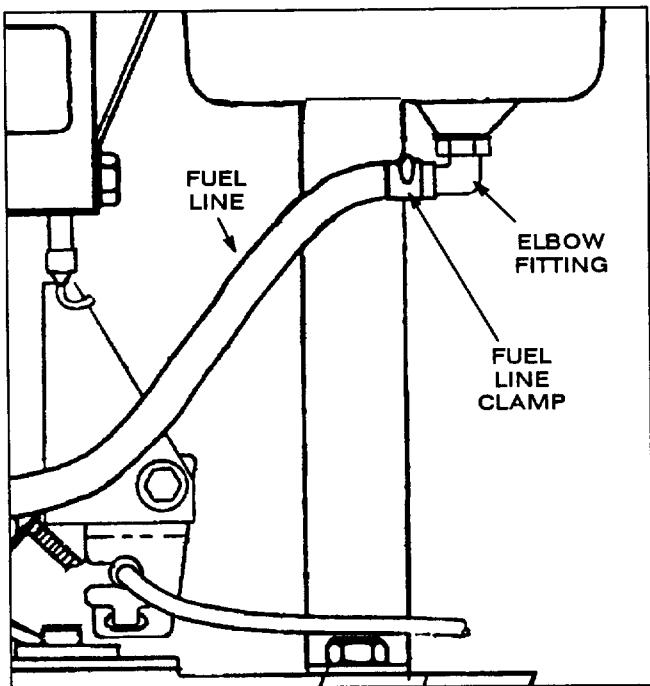

Figure 4
4. Slide end of fuel line onto elbow fitting. Secure in place with fuel line clamp (Fig. 4).